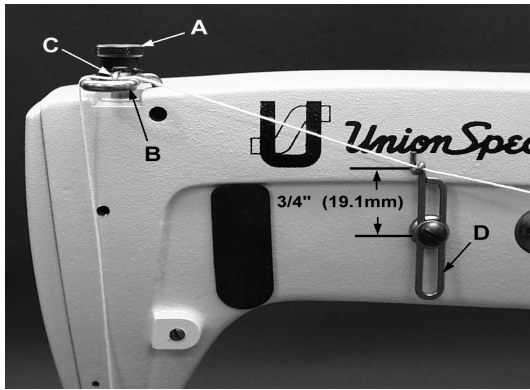

Fig 15
Turn handwheel in operating direction until the needle bar reaches its lowest position. Set needle thread take-up wire (B, Fig. 15) so that its thread contact surface is even with the center of the needle bar thread eyelet (C). Lower this setting for a smaller needle thread loop, raise for a larger loop. Set needle thread frame eyelet (D) so that it is approximately 3/4 inch (19.1mm) above centerline of its attaching screw (Fig. 15).